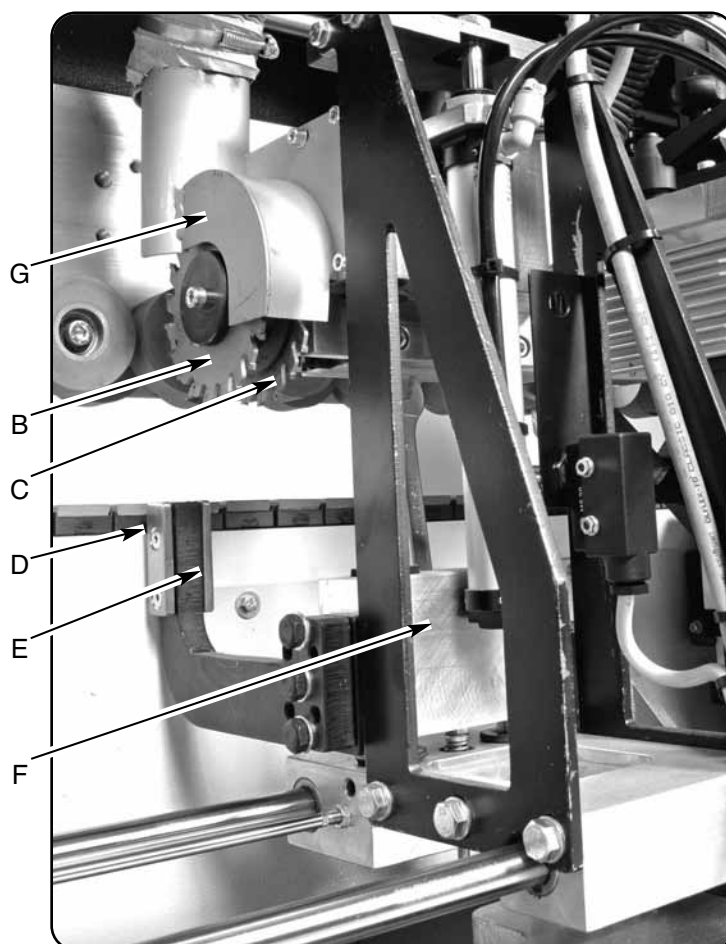
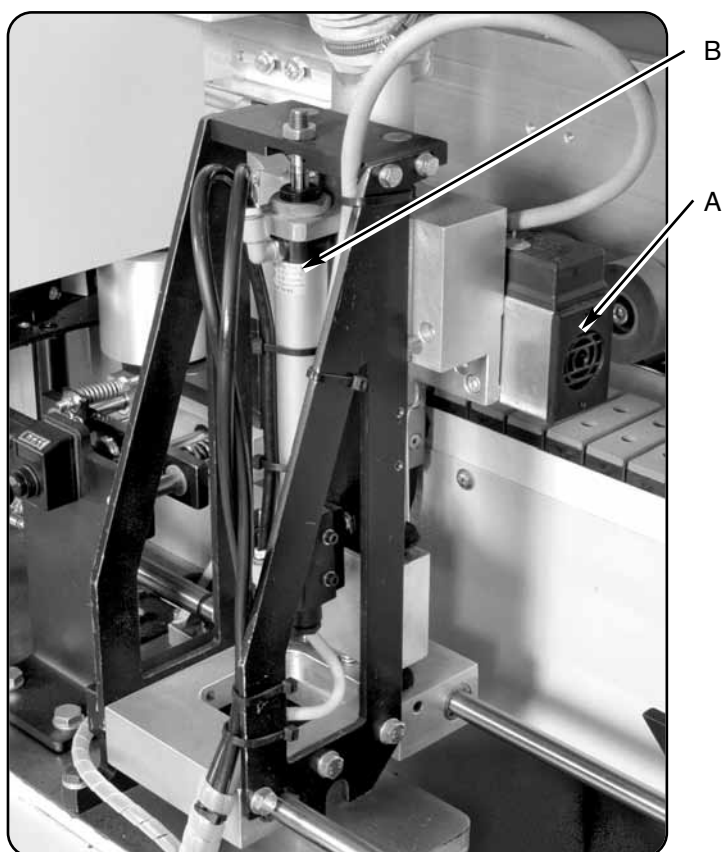

fig. 3.6.2
fig. 3.6.3
The unit is made of 1 High Frequency (HF) motor A fig. 3.6.3 with two blades Ø 100 mm B and C fig. 3.6.2.
The motor is installed on a support that slides on two vertical rods by the pneumatic cylinder B fig. 3.6.3.
On the same vertical rods there is a second support F fig. 3.6.2.
On this support are installed the copy pads D and E fig. 3.6.2.
The support of the copy pads has two stainless steel plates D e E fig. 3.6.2.
The two plates D e E fig. 3.6.2 are fixed with two conic screws and are laying on spring loaded washers.
Take off the collecting hood G fig. 3.6.2.